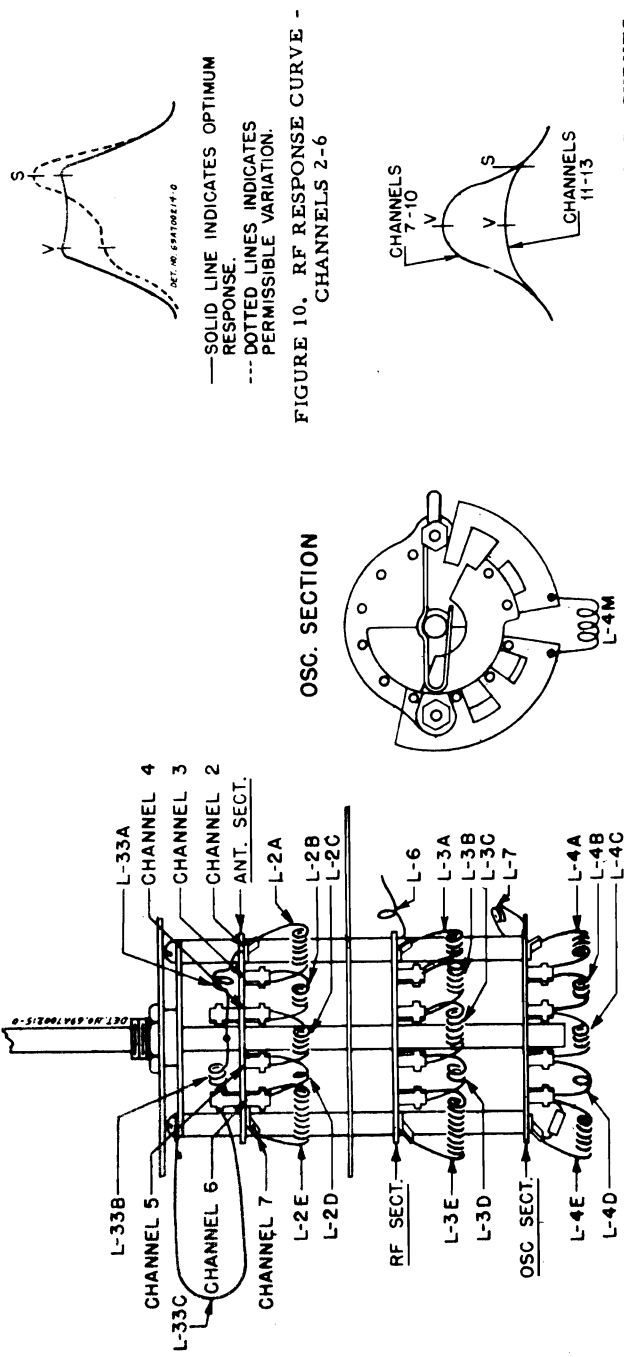

FIGURE 9. ANTENNA, RF AND OSCILLATOR COIL LOCATIONS
5. Refer to Figure 4 for the RF trimmer location and to Figure 9 for the locations of the antenna and RF coils. The frequency chart listed previously gives the channel and alignment frequencies.
9. Check channels 7 to 13 for proper response and, if necessary, tune the coil L-6. These coils may be tuned by spreading them to decrease inductance or compressing them to increase their inductance. See Figure 9 for location of coils. This will have more effect on channels 10 to 13 than 7 to 9. If L-6 is adjusted, it may be necessary to readjust RF trimmer C-6, and recheck the high channels.
11. Spread or compress the 3-turn coil located in the center of the oscillator plate (L-4M, Figure 9) so that the sound marker for channel 9 falls into the 27.3 mc trap dip in the response curve. As the oscillator is tuned below the carrier on channels 7, 8, & 10 the 27.3 mc trap will be in the same position as the 21.9 mc trap in step 9.
- 2) If channel 10 does not meet the 30 degree requirement, move station selector and generator to channel 9 and tune the 3-turn coil (L-4M, Figure 9) toward channel 10 (coil frequency raised by spreading turns). This will also tend to move channel 9 sound marker out of the trap dip, but this can be compensated for by the fine tuning trimmer. Again, do not adjust the coil any more than is necessary to bring the channel in question back within the 30 degree requirement.
18. Adjust channel 6 oscillator coil (L-4E, Figure 9) so that the sound marker for channel 6 falls into the 21.9 mc trap dip with the fine tuning trimmer at mid-capacity (shaft slot in horizontal position). Always spread or compress channel #6 oscillator coil in units of 3 turns. Compressing turns will move curve toward sound marker, while spreading will move curve toward video marker.